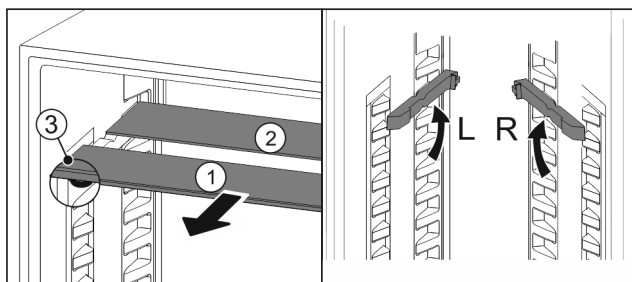

Fig. 24
- Pull the glass panels out Fig. 24 (1) from the front, one at a time.
- ▷ The glass panel Fig. 24 (1) with the trim strip is at the front.
- ▷ The stops Fig. 24 (3) point downward.